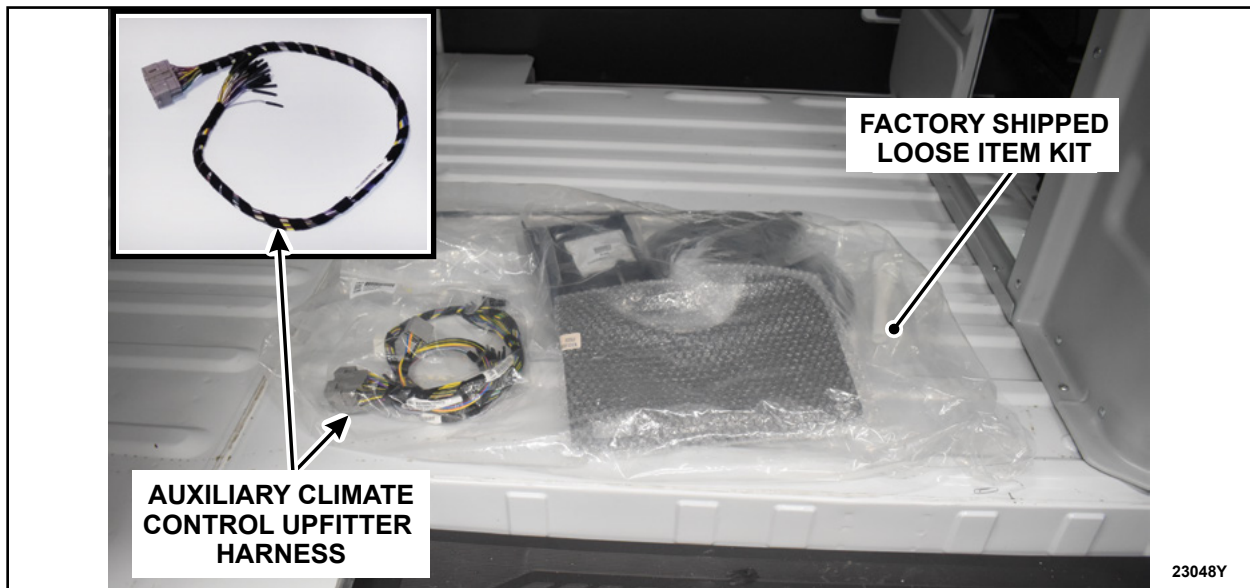

FIGURE 1
2. Locate the loose item kit (shipped from factory) and remove the auxiliary climate control upfitter harness. See Figure 1. Was the auxiliary climate control upfitter harness found within the vehicle?